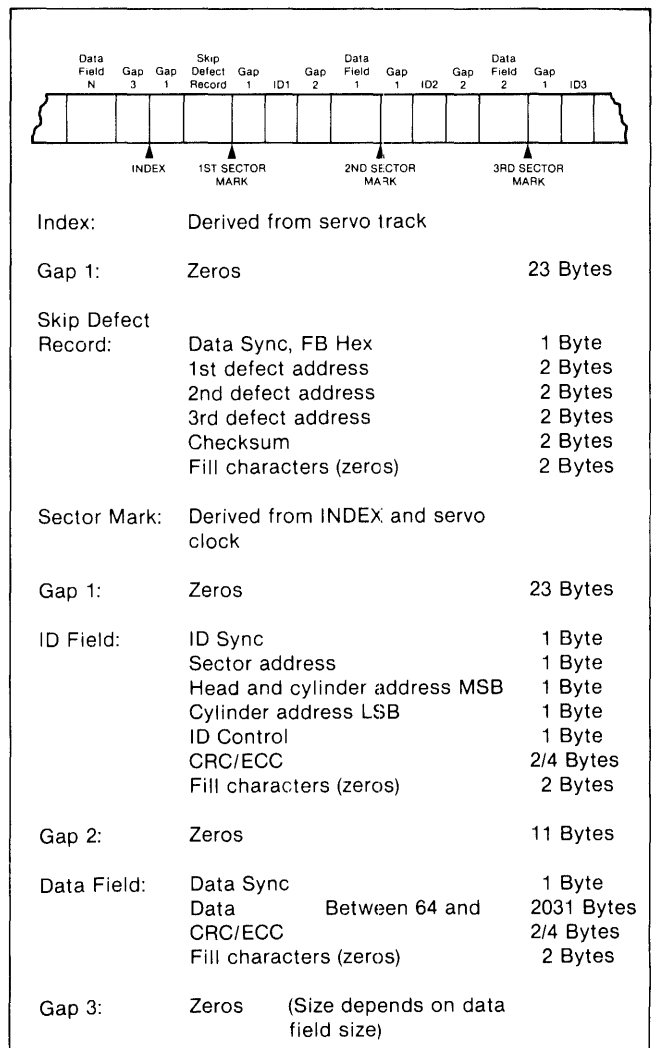

Figure 4-24. Format Definition
4.7.3 Suggested Data Format (See Figure 4-24).
Each track begins with an INDEX Pulse which is generated by information from the servo tracks. Also, the servo tracks provide clocking information for generation of sector pulses. A sector pulse occurs at the beginning of each data record area. Each data record consists of several gaps, an ID (Identification) field and data field (See Figure 4-24).